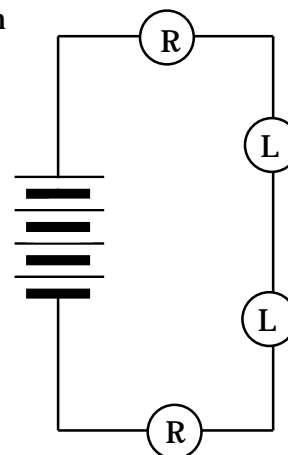

Figure 5.5
Set up the circuit in Figure 5.5. Connect the circuit 5 times – with the compass placed under a different wire each time. (Tape the compass in place and rotate the circuit over it.)
6. Color code the wires in Figure 5.5 in accordance with your answer to question 5. Draw arrowtails by the bulbs, which show direction and magnitude for flow rates driven by the pressure differences. Draw starbursts on the bulbs to represent the light coming out.